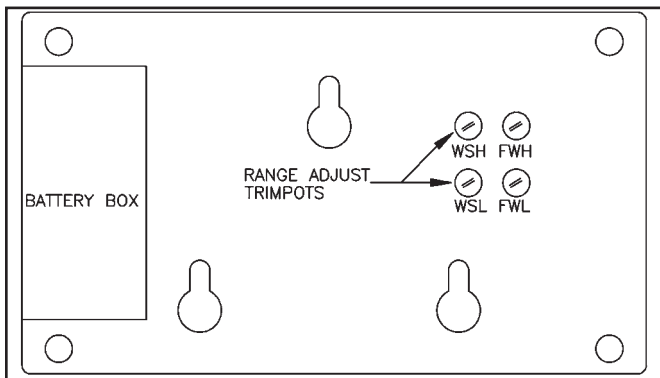

Figure 15. Back of the Combo Tester
2. Orient tester so that it corresponds to Figure 15.